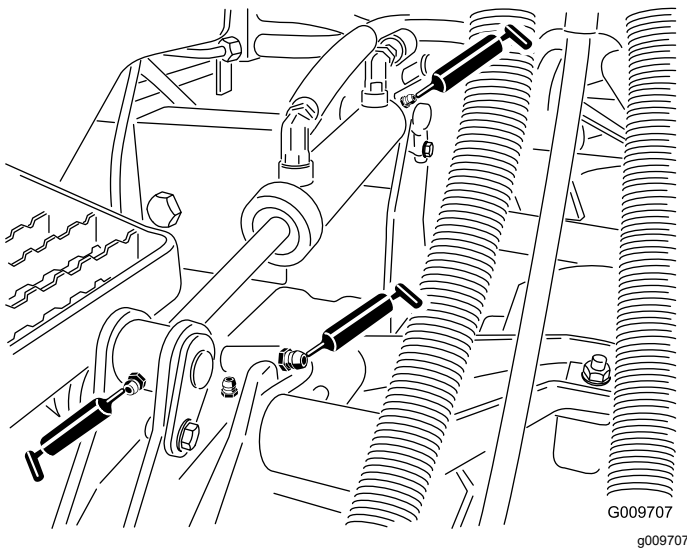

Figure 77
- Lift-arm bushings (1 per cutting unit) as shown in Figure 77
- Lift-cylinder bushings (2 per cutting unit) as shown in Figure 77